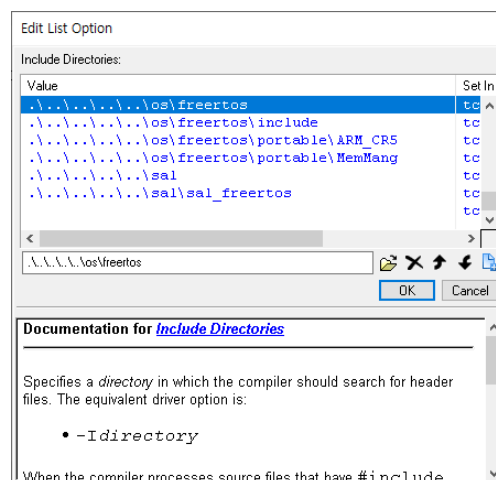

Figure 5.20 Add Include Path
- If you find the tcc805x_src_freertos.gpj file under the "\\build\tcc805x\ghc\src_program\" folder, see Figure 5.20 Add Include Path.